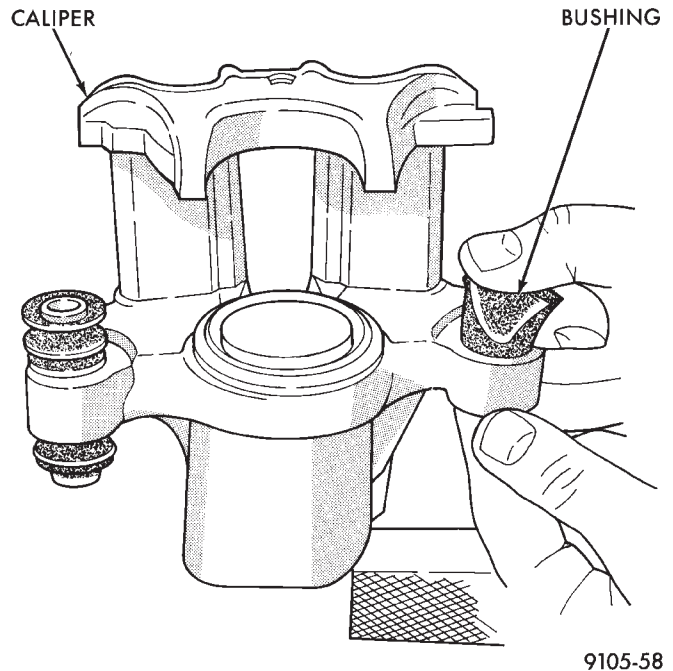

Fig. 176 Removing Bushing From Caliper
(2) Using your fingers, collapse one side of the rubber guide pin bushing. Pull the guide pin bushing out the other side of the brake caliper mounting boss (Fig. 176).